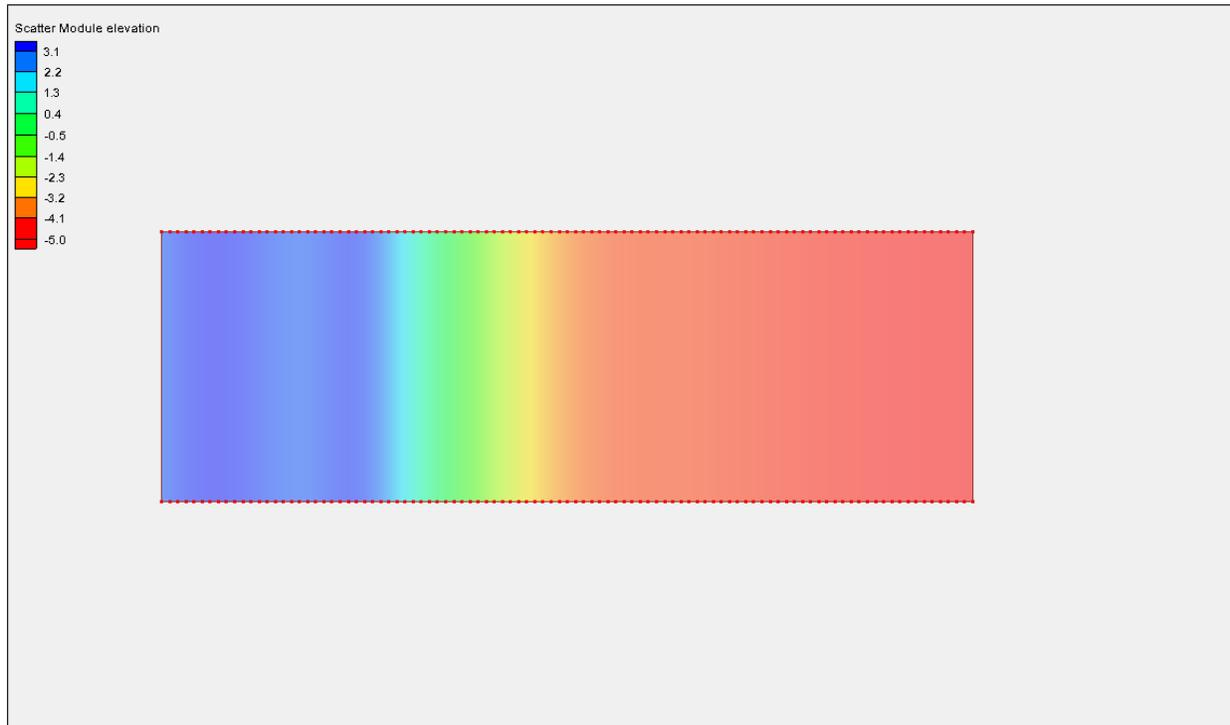
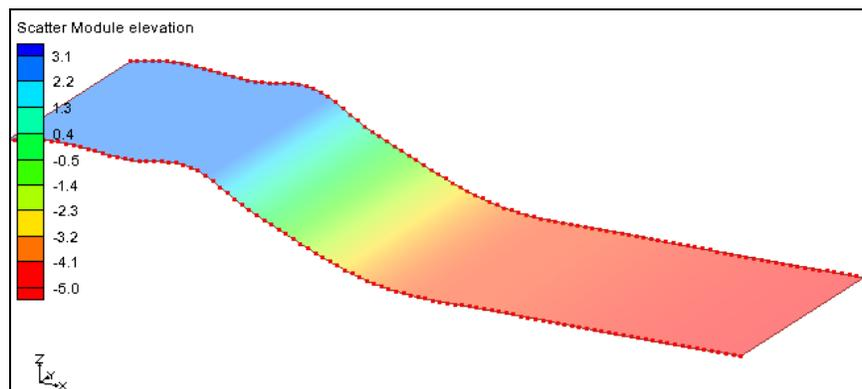

Figure 1 Dataset representing underlying geometry.
Figure 2 Oblique view of the reflective beach profile.
1. Click on the *File /Open..* command and select “reflective_beach.sms”. This project contains a scattered data set representing a simple reflective beach profile. (The project file sets up display settings and projection to be consistent.) The resulting display should appear as shown in Figure 1. Figure 2 shows the profile shape.